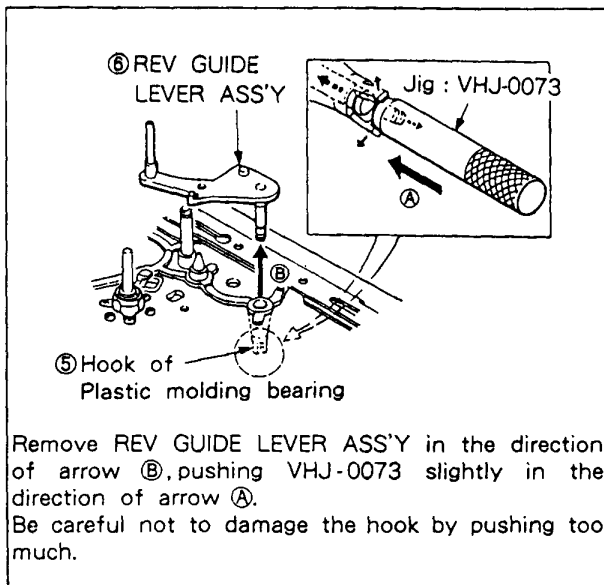

Fig. 5-6-2 Method of Using the Jig VJH-0073
- 3) Remove the PINCH SPRING COIL ①.
- 4) Remove the special washer ②, then remove the PINCH LEVER ASS'Y ③.
- 5) Remove the REV GUIDE LEVER SPRING COIL ④.
- 6) Remove REV GUIDE LEVER ASS'Y ⑥ from the hook ⑤ of the plastic bearing on the bottom side. Use a jig VHJ-0073 shown in Fig. 5-6-2 to widen the hook of the plastic bearing. By so doing, the above removal of the REV GUIDE LEVER ASS'Y ⑥ can be made more easily. Care should be taken to avoid pushing the jig VHJ-0073 too much. Pushing it too hard may damage the hook in an extreme case.
- 7) Remove the SLIDE BRAKE SPRING COIL ⑦.
- 8) Remove the special washer ⑧, then remove the PINCH CAM LEVER ASS'Y ⑨.
- 9) Remove the ACT PINCH SLIDE ASS'Y ⑩.
**Note:** If the hook ⑤ of the plastic bearing is damaged, reference should be made to Section 3. "Method of Repairing the Bearing Section of REV GUIDE LEVER ASS'Y".